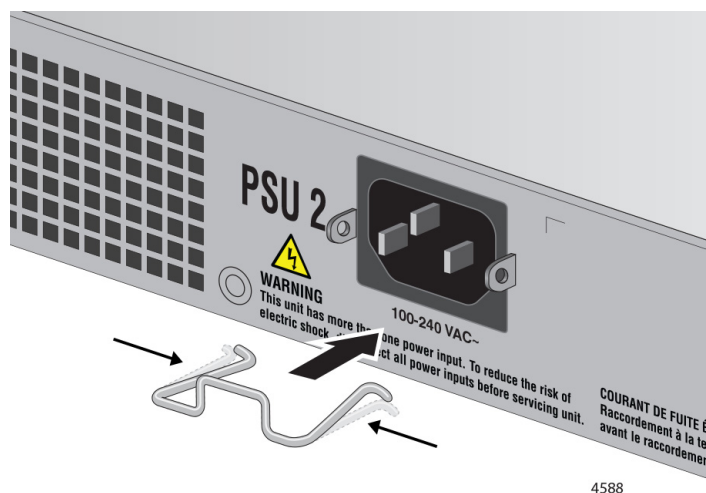

Figure 30. Installing the Power Cord Retaining Clip
1. Install the power cord retaining clip on the AC power connector on the rear panel of the switch. Refer to Figure 30.